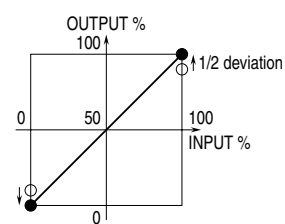

Fig. 9
- 5) With 100% input, adjust the other half of the deviation with Span adjustment in order to get 100% output. See Figure 9.